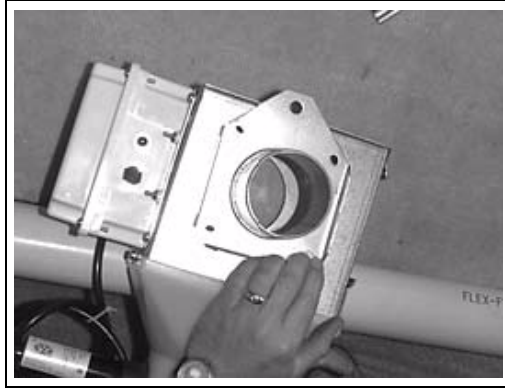

Figure 5Q Assembly of Tube Anchor to the Control Unit
1. Bolt the tube anchor to the control unit body with a flat washer on each of the four (4) 5/16" x 3/4" bolts. (See Figure 5Q for more details.)
1. Bolt the tube anchor to the control unit body with a flat washer on each of the four (4) 5/16" x 3/4" bolts. (See Figure 5Q on Page 25 for more details.)
3. Bolt the two (2) mounting brackets together with the four (4) bolts and washers provided.
4. Attach the motor support assembly to the control unit with the four (4) bolts already in the mounting bracket and belt guard. Secure with the four (4) lock washers and hex nuts provided. If necessary, motor orientation can be reversed by rotating the motor mount 180°.